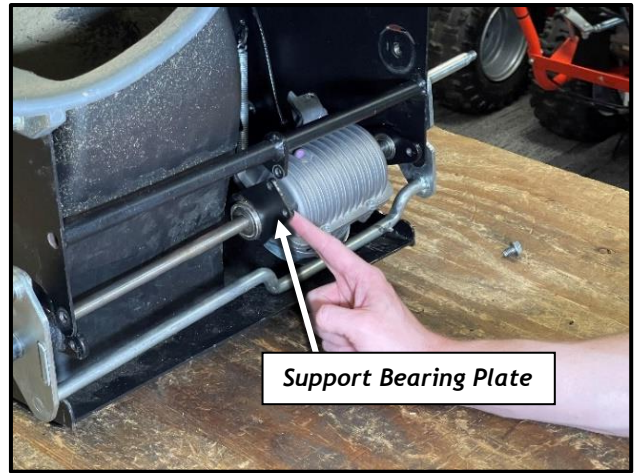

Figure 11
2. When doing Step 6 in reverse, ensure that the Support Bearing Plate is pushed up next to the Transmission when inserting the assembly back into the machine. It will catch on to the Discharge Chute and cause the assembly to not fit properly if not in the right position (**Figure 11**).